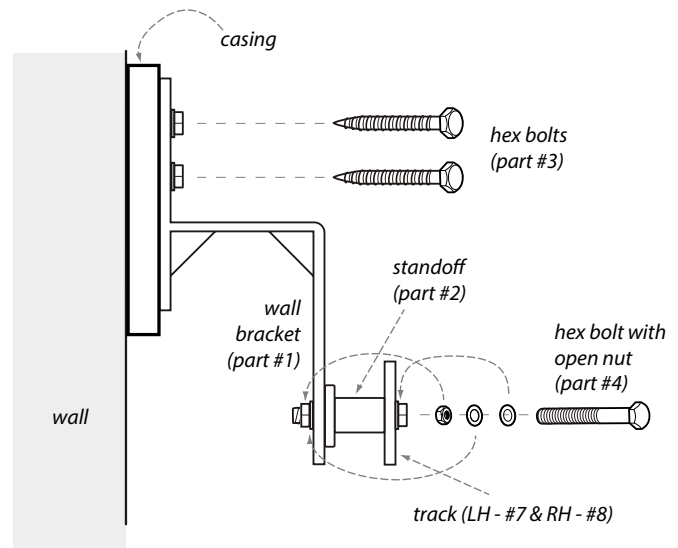
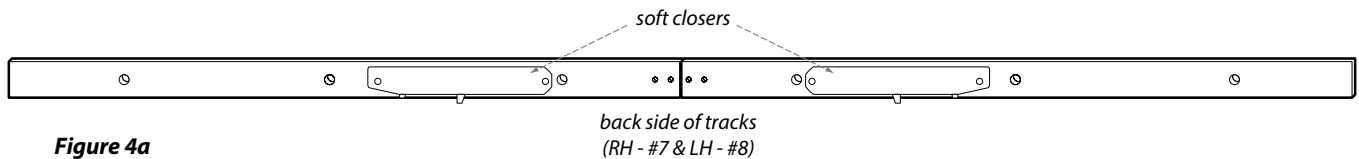

Figure 3
Figure 4a
5. Use hex bolts (part #3) to install brackets (part #1) to casing (figure 3).
6. Use hex bolts with open nuts (part #4) and standoffs (part #2) to mount RH & LH tracks (parts #7 & #8) to brackets (figure 3). **Make sure** to place washers as shown **AND** that soft closers are towards the wall (back side of tracks shown in figure 4a).